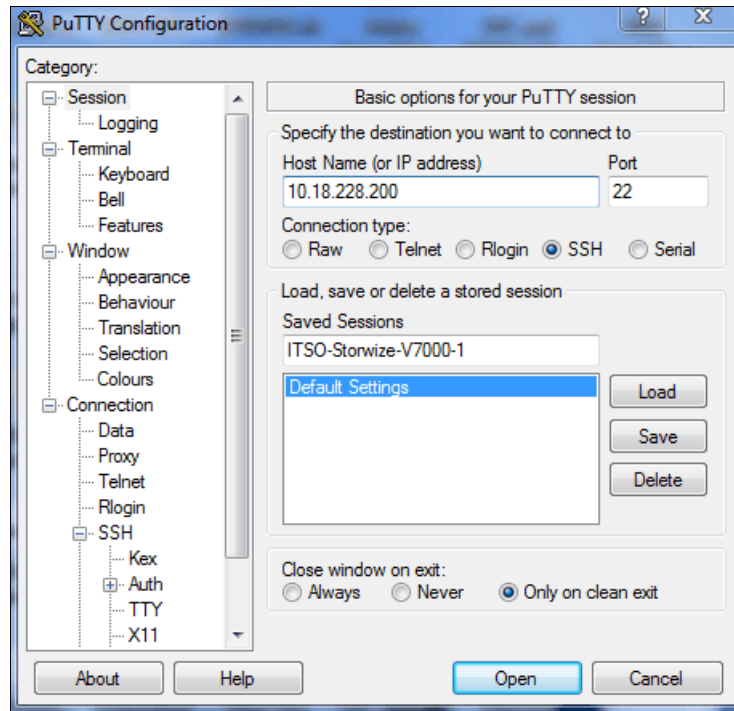

Figure A-12 Enter session information
5. In the Category pane, click **Session** to return to the Basic options for your PuTTY session view (Figure A-12 on page 506).
6. Enter the following information in these fields (Figure A-12) in the right pane: